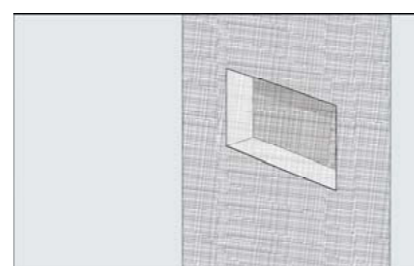

Fig. 7.
STEP 8: Apply the additional 80mm membrane strip (C) to inside edges of Niche (4 sides). Press firmly to ensure total adhesion. (Fig 7).